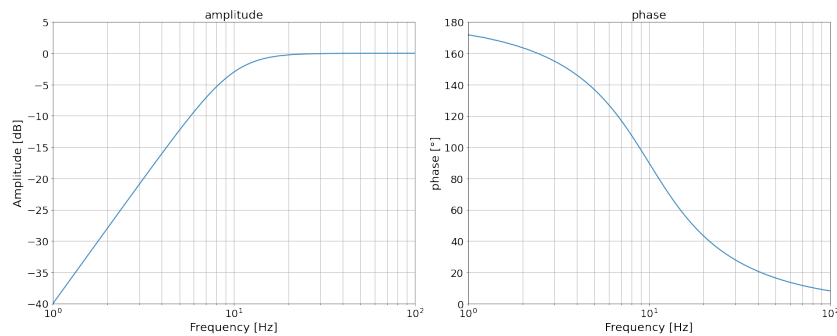

Figure 41: Bodeplot Butterworth highpass.
E.g.: Cut-off frequency is 10Hz. The bodeplot is shown in the figure 41 below.